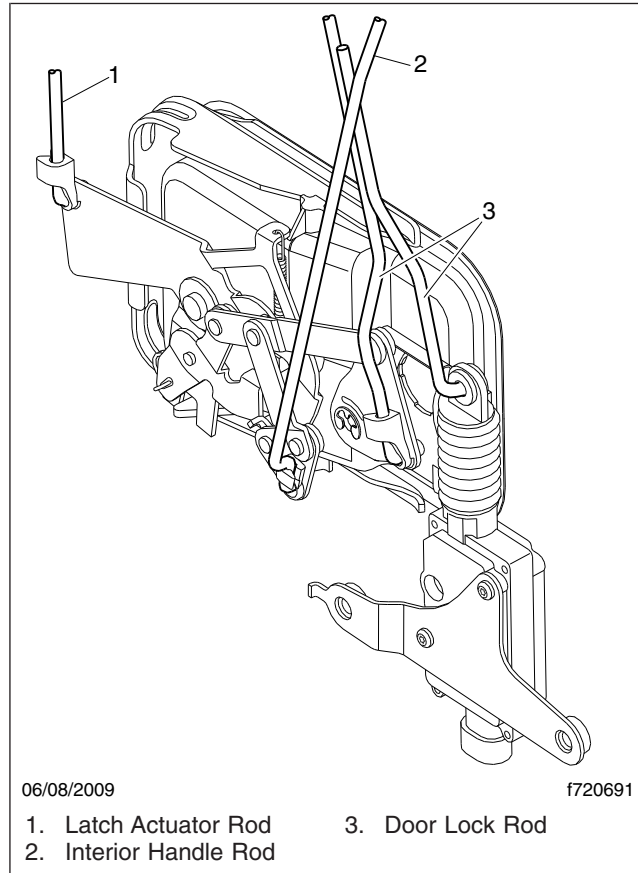

Fig. 3, Exterior Door Handle (inside view)
7. Disconnect the door lock rod from the exterior door handle mechanism and the door lock actuator and disconnect the interior handle rod from the door lock actuator. These are accessible through a hole in the lower aft portion of the inner door panel. See Fig. 3.